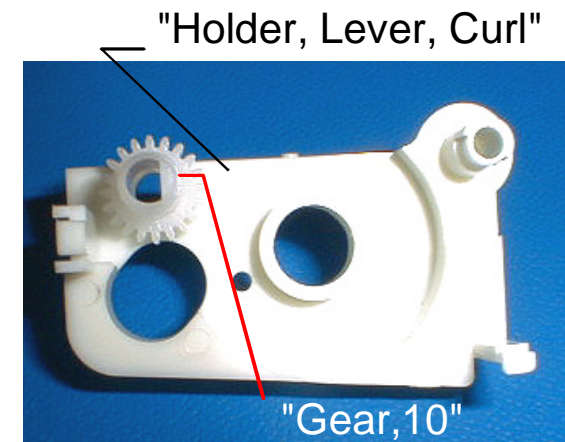

Figure 4-140. Setting "Gear, 10"
1. Install "Gear, 10" to "Holder, Lever, Curl", locating "Gear10" in the reversed "D" shape, as it is shown in figure4-140.